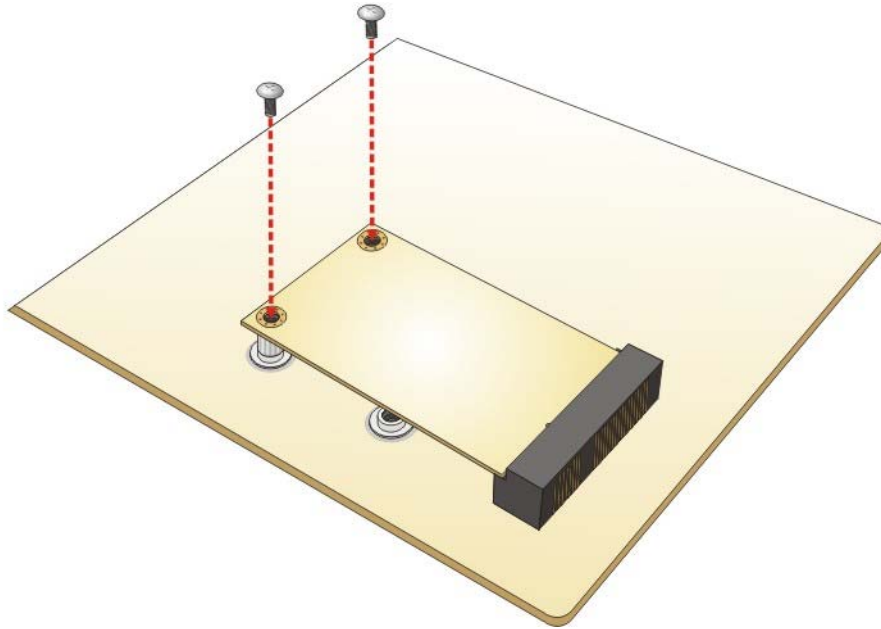

Figure 4-4: Securing the Full-size PCIe Mini Card
Step 4: **Secure the full-size PCIe Mini card.** Secure the full-size PCIe Mini card with the retention screws previously removed (**Figure 4-4**).